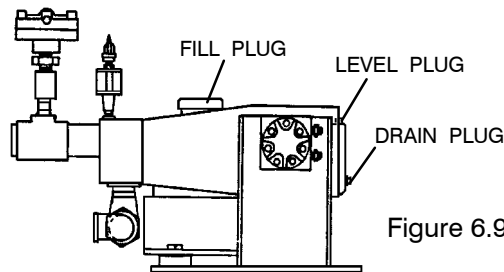

Figure 6.9–9
3. Remove both fill plug and drain plug (Figure 6.9–9). Allow oil to drain completely.